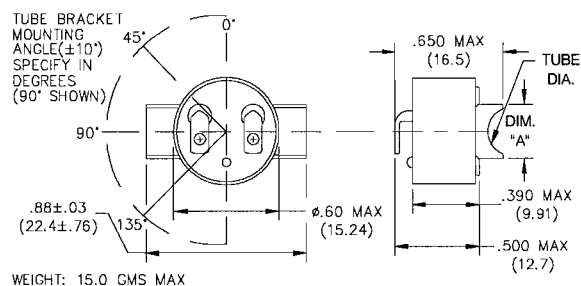

**Figure 6:**
- 706 = Hole-Slot Flange (See Figure 6)